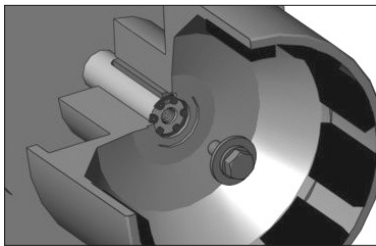

Figure 6
Metric Motors: Secure the drive to the motor shaft using bolt, lock washer and flat washer (items 25, 26, 27). Thread the bolt into the end of the motor shaft (while holding the outer drive to prevent it from turning). See figure 6.